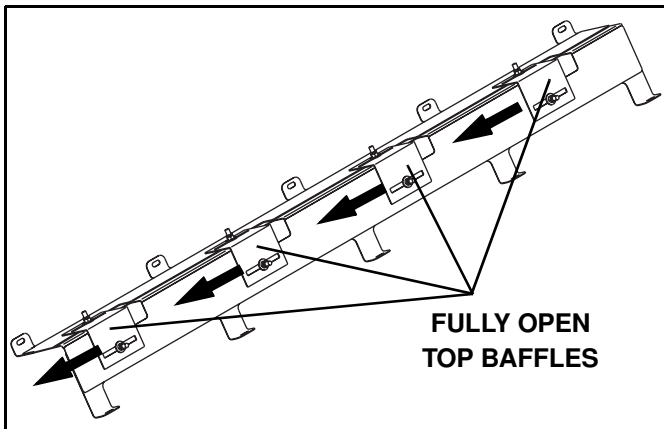

Figure 1-6
A. One Piece Design - Top baffles open and side baffles fully raised. The top baffles can be partially or fully open depending on desired flow to the auger. Note: If using a PDE800, an additional vibrator (99101247) is recommended (See Figure 1-6).